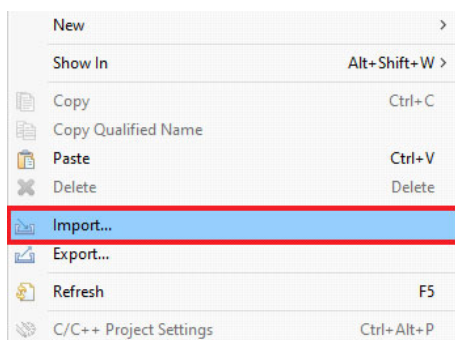

Figure 16. Right-Click Menu to Import the Bootloader Project
1. Import the MCUboot software project that contains the python script and is used in the image generation process. *Note:* This is the bootloader project not the application software that runs from the target image. Verify that the **ra4e1_iso_dongle_mcuboot_v_1_0.zip** project archive file is already available. Right-click in the e² studio Project Explorer view and select **Import** from the menu to open the Import Wizard (Figure 16).
Next, right-click in the e² studio Project Explorer and select **Import** from the menu to open the Import Wizard (Figure 16).